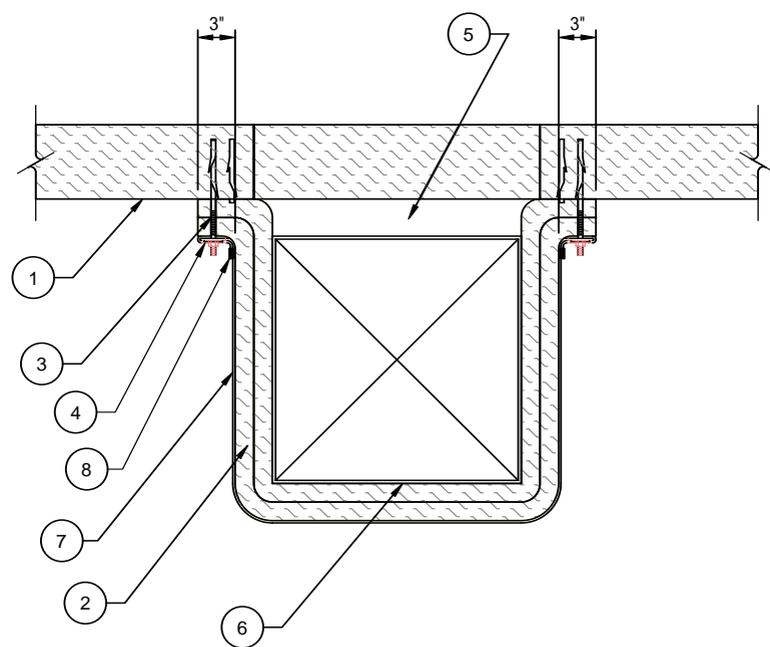

Figure 1
FastWrap XL shall be installed by a qualified contractor in accordance with manufacturer's instructions and referenced standards. See figures 1 to 5 for complete details.
To minimize waste, FastWrap XL blanket should be rolled out tautly before measuring. Cut edges of the blanket shall be taped with aluminum foil tape to prevent exposed edges of the insulation from wicking moisture from condensation or grease from a compromised leaking duct joint into the material and causing degradation of the fire barrier. Overlaps are used to block heat transfer in the event of duct deformation resulting from thermal expansion. FastWrap XL blanket may be installed with either a mechanical banding system or insulation pins and clips (see Mechanical Attachment Methods below and figures 1 and 2). Support hanger systems do not need to be wrapped provided that the hanger rods are at least a minimum of ¾" diameter and spaced a maximum of 60" on center along the length of the duct, and the angle iron is a minimum of 2" x 2" x ¼" or SMACNA equivalent support system (SMACNA band strap support do not apply). Horizontal trapeze support system may be incorporated into the wrap enclosure.
C. 2 & 3 Sided Wrap Installation (Figure 1)